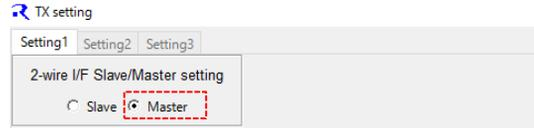

Figure 6.12 2-wire serial I/F Slave/Master setting
3. Select Master at "Setting1" of "TX setting" in "Option" menu. Refer to Figure 6.12.